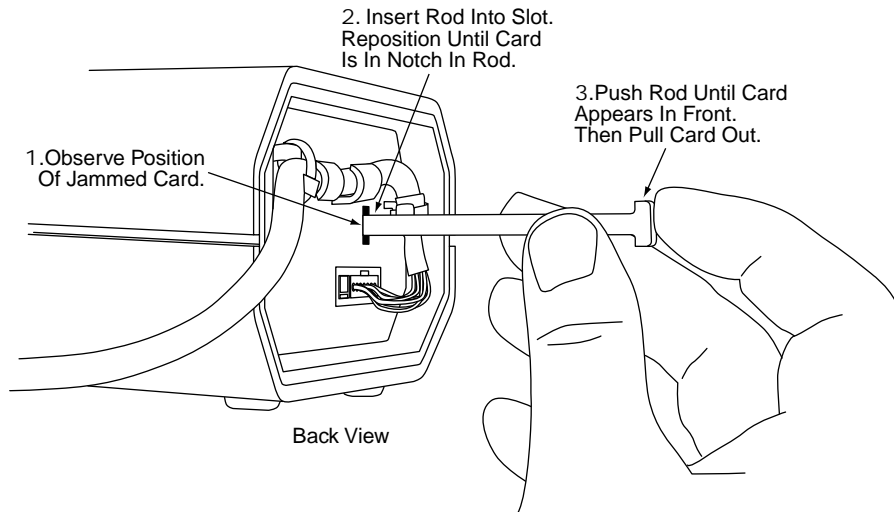

Figure 3-2. Card Removal with Ejector Rod
If the card does not automatically eject, the card may be pushed out with a special tool, the Ejector Rod, which is located on the bottom of the unit. The Rod is inserted into a slot in the back of the unit, shown in Figure 3-2.
2. Look into the slot in the back of the unit, shown in Figure 3-2, to see the jammed card. This will show the approximate position where the notch on the Ejector Rod will be inserted.
3. Insert the Rod into the slot as shown in Figure 3-2.